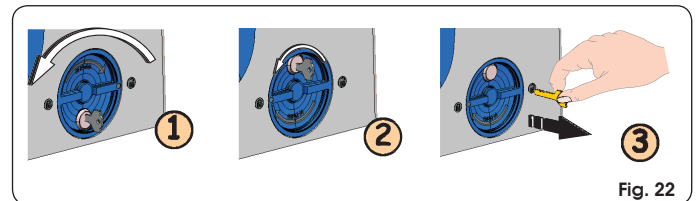

Fig. 22
1. Turn the release system anti-clockwise by about 180°, as shown in Fig. 22 ref. ①.
2. Turn the key anti-clockwise, Fig. 22 ref. ②, and remove it from the lock, as shown in Fig. 22 ref. ③.